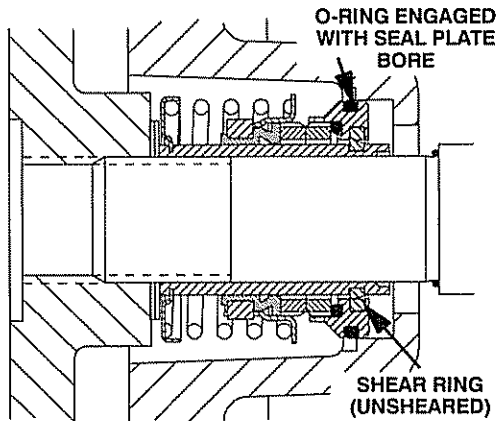

Figure 6. Seal Partially Installed
Clean and inspect the impeller as described in **Impeller Installation and Adjustment**. Install the full set of impeller shims (30) provided with the seal, and screw the impeller onto the shaft until it is seated against the seal (see Figure 6).